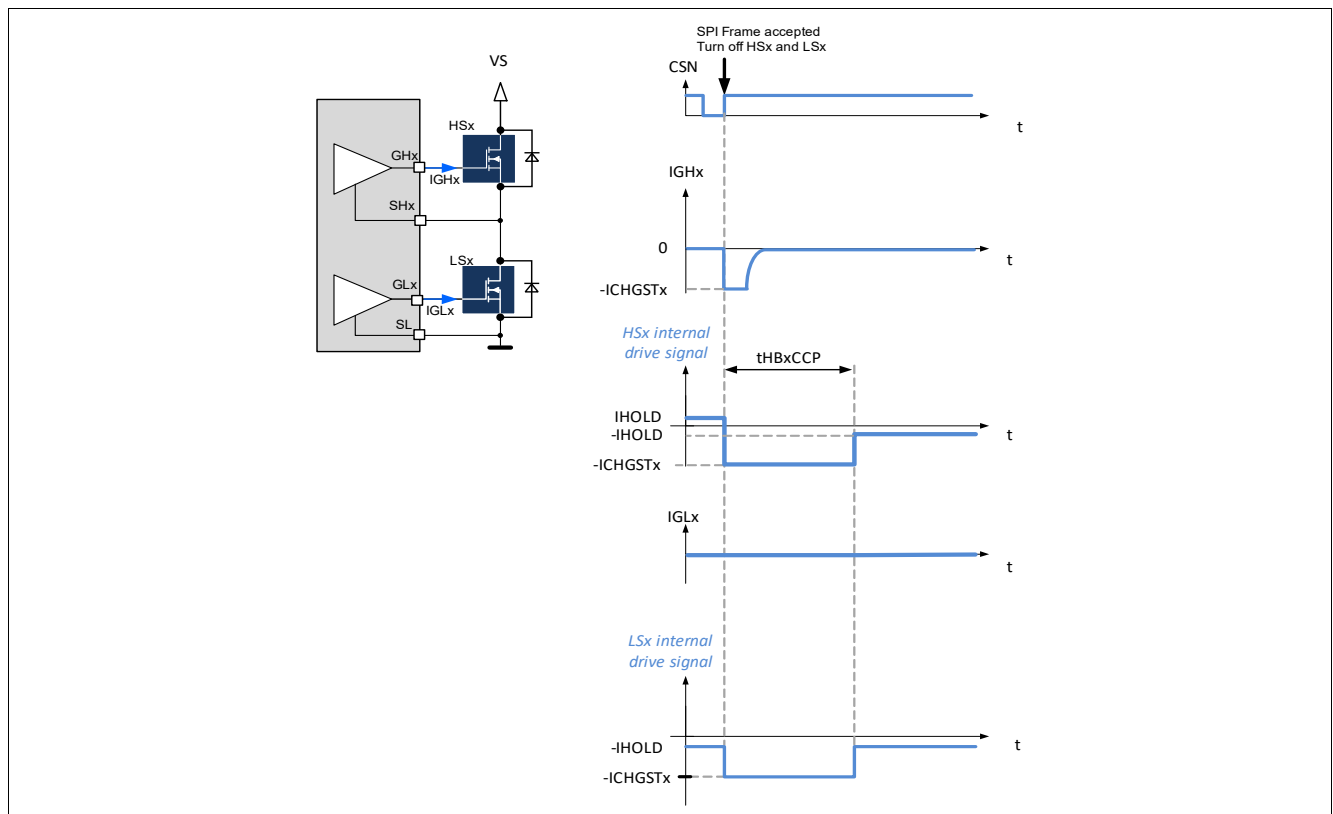

Figure 9 Turn-off of the high-side and low-side MOSFETs of a half-bridge
- the gate of HSx and LSx are discharged with the current $-ICHGSTx$ for the duration $t_{HBxCCP Active}$ (Figure 9)